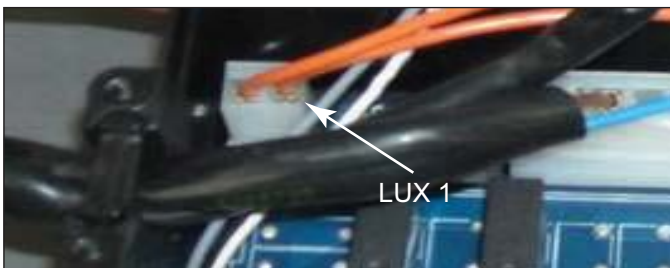

Figure 4-6. LUX1 Connector on Power Board
- Disconnect LUX1 from Power Board and measure voltage between the pins on the board. Voltage should be 115 VAC. (See Figure 4-6)